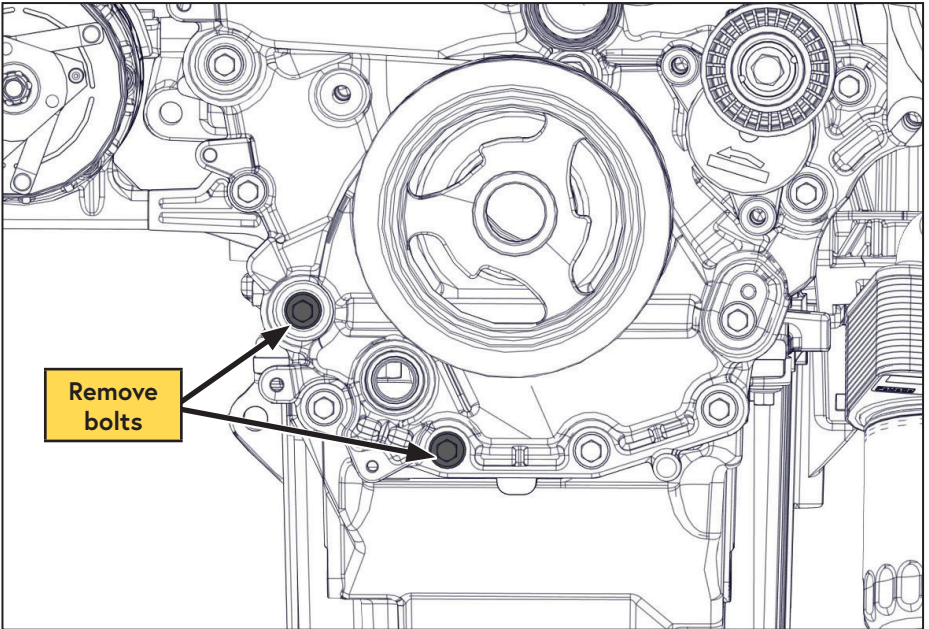

Figure 10 — Remove timing cover bolts
- Remove and discard the timing cover bolts (Figure 10).